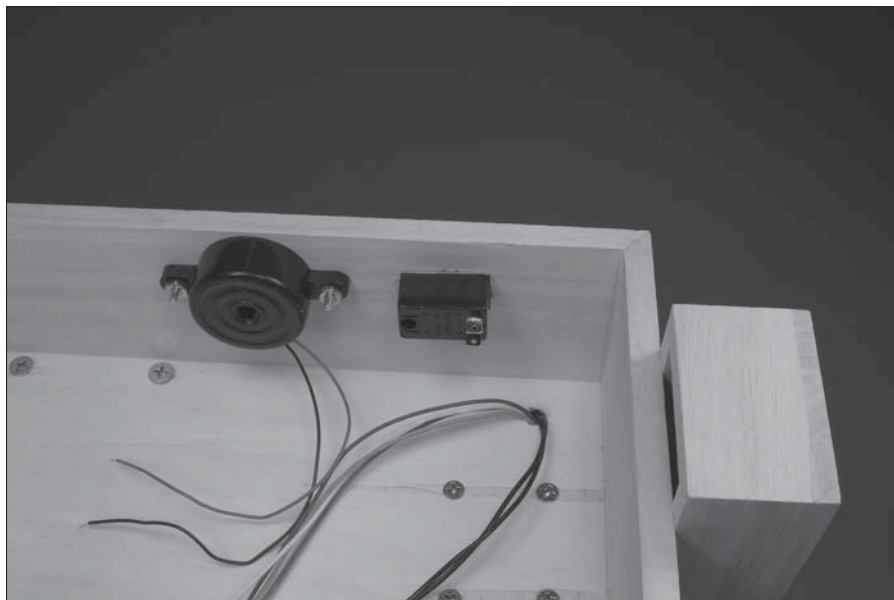

Figure 13-34:
11. Drill two holes for 6-32 screws to mount the buzzer, as shown in Figure 13-34.
13. Drill a hole in the box where you will insert the on/off switch, as shown in Figure 13-34.